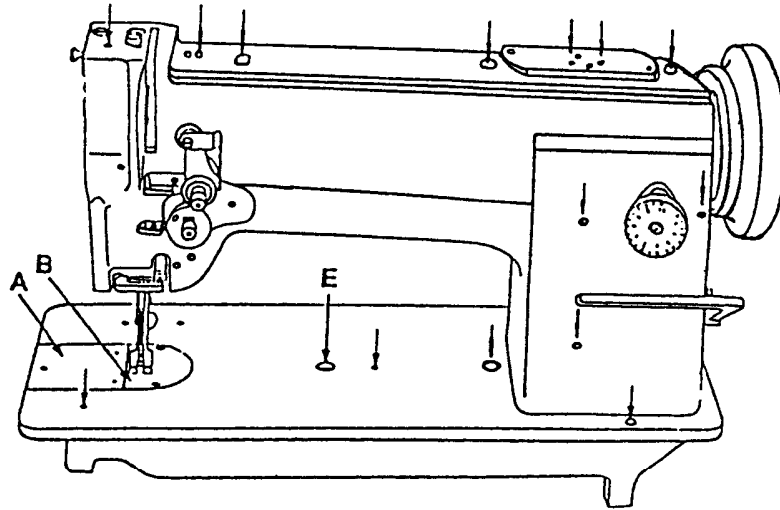
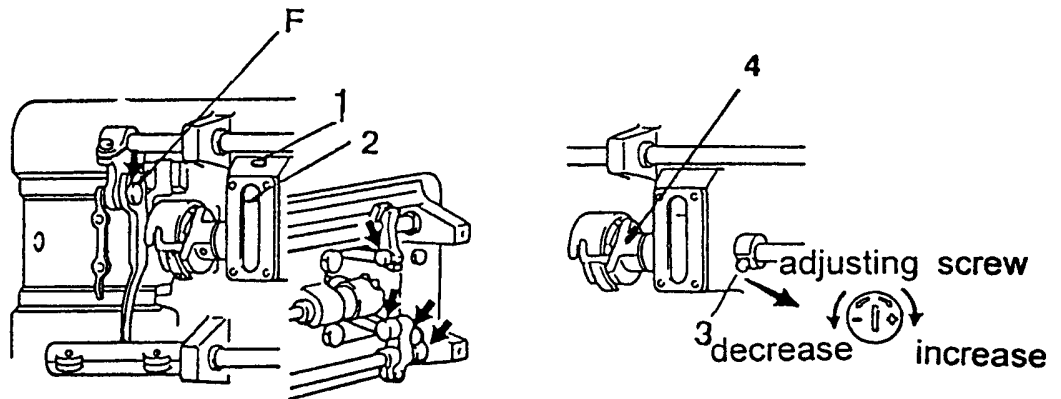

Fig.2
Fig.5
The arrows on the following illustration indicate oiling points. (Fig.2-Fig.5)
### I FOR OILING TO HOOK (Fig.5)
### II OILING ADJUSTMENT TO HOOK (Fig.5)
1. Lift the needle bar to its highest point, place the feed dog at this side in its travel turning the machine pulley, and open the slide plate (A, Fig.2).
The sewing hook and its mechanism are protected by a safety clutch. If it should become necessary to re-engage the safety clutch, depress button (E, Fig.2) in the bed plate of the machine. At the same time, turn the machine pulley until the locking mechanism re-engages the drive shaft beneath the bed of the machine. Open bed slide plate and rock the machine pulley back and forth to remove any foreign matter may have lodged itself in the hook. Do not use any sharp-edged tools, etc., lest the hook be damaged.
2. Loosen bell crank screw (F, Fig.5) and adjust the height of the feeder by raising or lowering it.
3. Lay down the machine head toward the other side, and loosen the screw (I, Fig.5).